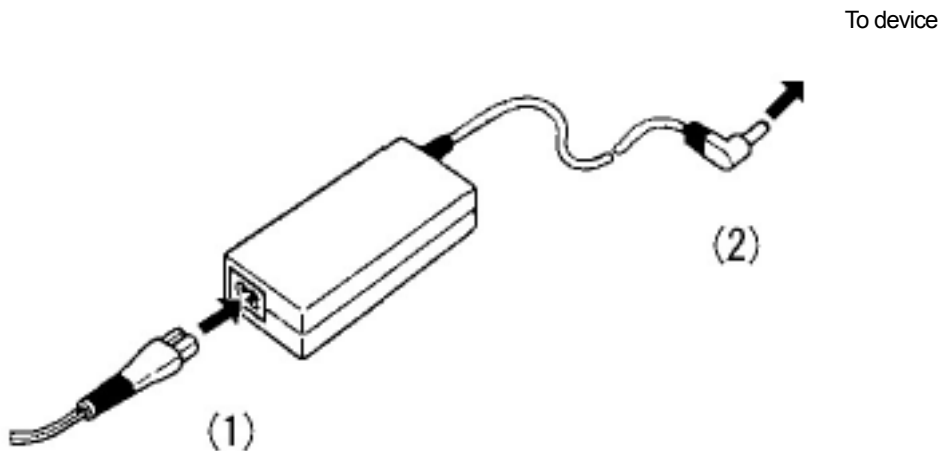

Figure 4-5 Connecting the AC Adapter
- (1) Confirm that the power switch on the main unit is set to "OFF."
- (2) Connect the AC cable to the AC power connector on the AC adapter. (See Figure 4-5 (1))
- (3) Connect the DC jack of the AC adapter to the connection destination equipment (Handy Search/printer).
(See Figure 4-5 (2))
- (4) Connect the AC adapter cable to the socket outlet.